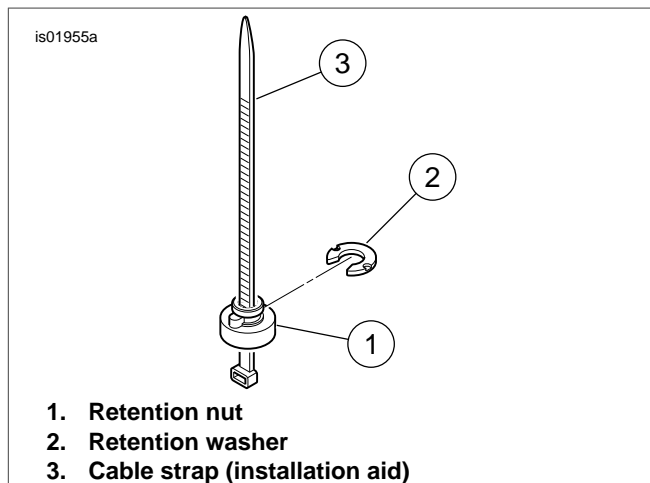
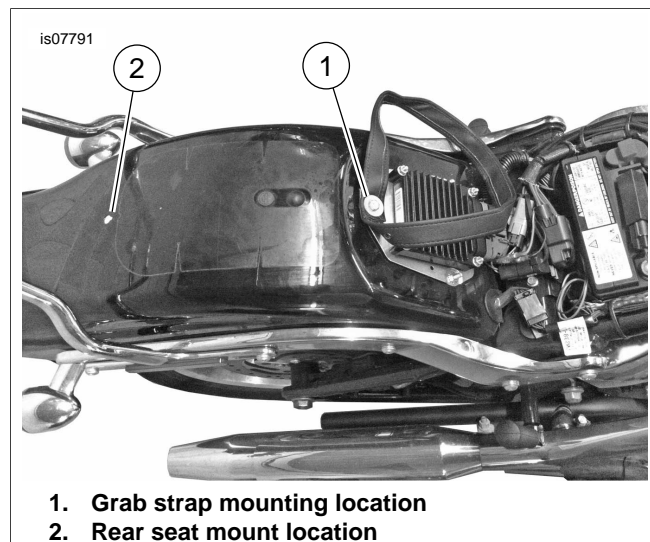

Figure 2. Install Retention Nut
Figure 6. FX Softail Model Fender Configuration
- b. See Figure 2. Get the cable strap (3) from the kit as an aid to install the seat retention nut (1) and washer (2). Place the nut over the cable strap so the wide end of the nut rests on the eye of the strap.
- c. See Figure 2. Get the cable strap (3) from the kit as an aid to install the seat retention nut (1) and washer (2). Place the nut over the cable strap so the wide end of the nut rests on the eye of the strap.
- c. See Figure 2. Use the cable strap (3) as an aid to install the seat retention nut (1) and washer (2) from the retention nut kit. Place the nut over the cable strap so the wide end of the nut rests on the eye of the strap.
FX Softail models: See Figure 6. Remove the hex cap screw and fender washer (1). Remove the grab strap. Save the hardware for later installation. Discard the grab strap.
3. **FXSTC models** require installation of a Seat Nut Kit (Part No. 59768-97, purchased separately) at the rear seat mounting hole location (2).
- c. See Figure 6. At the grab strap hole location (1), thread the hex screw into the retention nut finger-tight.